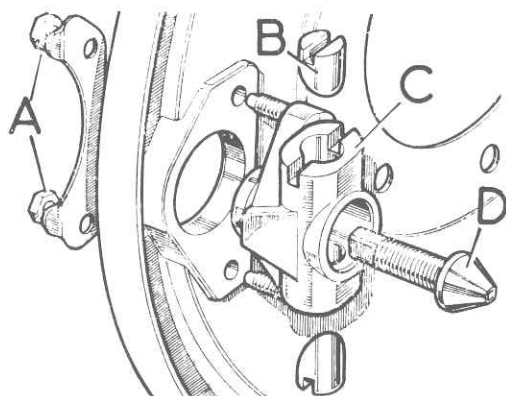

Fig. 9.10. Transmission brake adjuster assembly
- 6 Check that the plungers in the adjuster unit move freely. If they are stiff or seized, unscrew the two securing nuts from the front of the backplate and remove the complete unit (see Fig. 9.10).